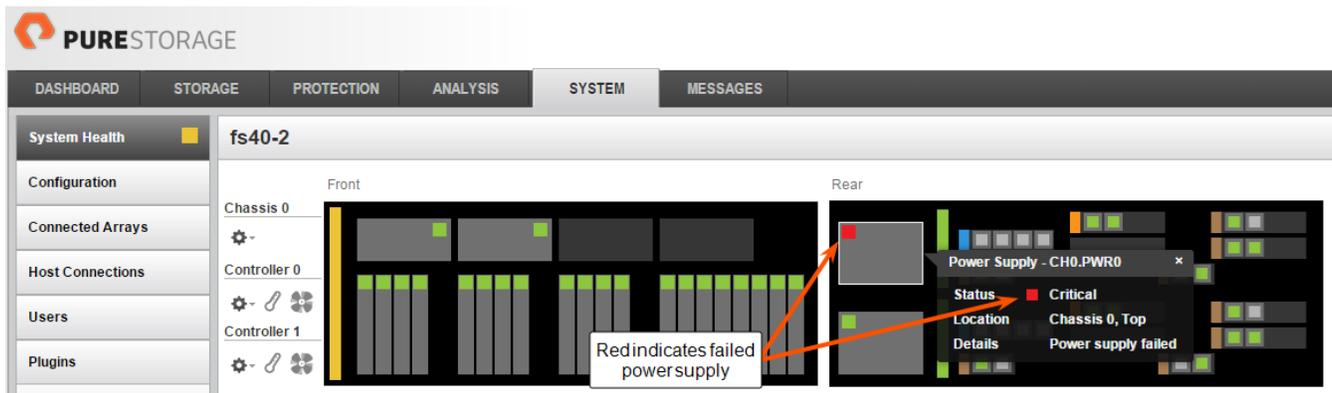

Figure 3-1. GUI Indication of Power Supply Failure
- Use the Purity GUI. Select **System > System Health**. A red rectangle in the upper left corner of a power supply icon indicates a failure (see Figure 3-1).